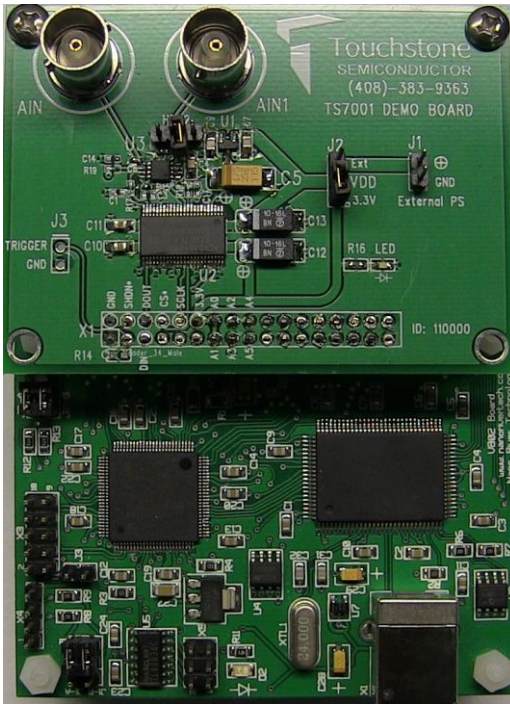
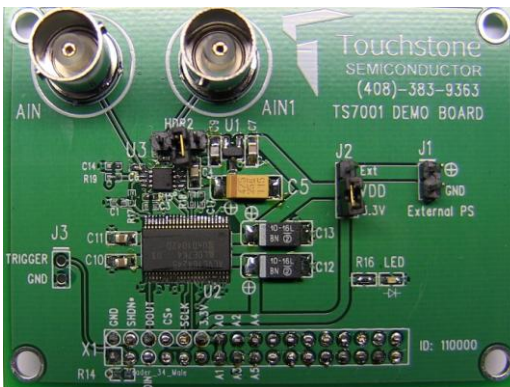
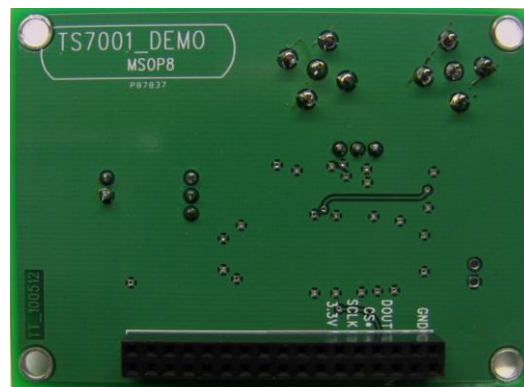
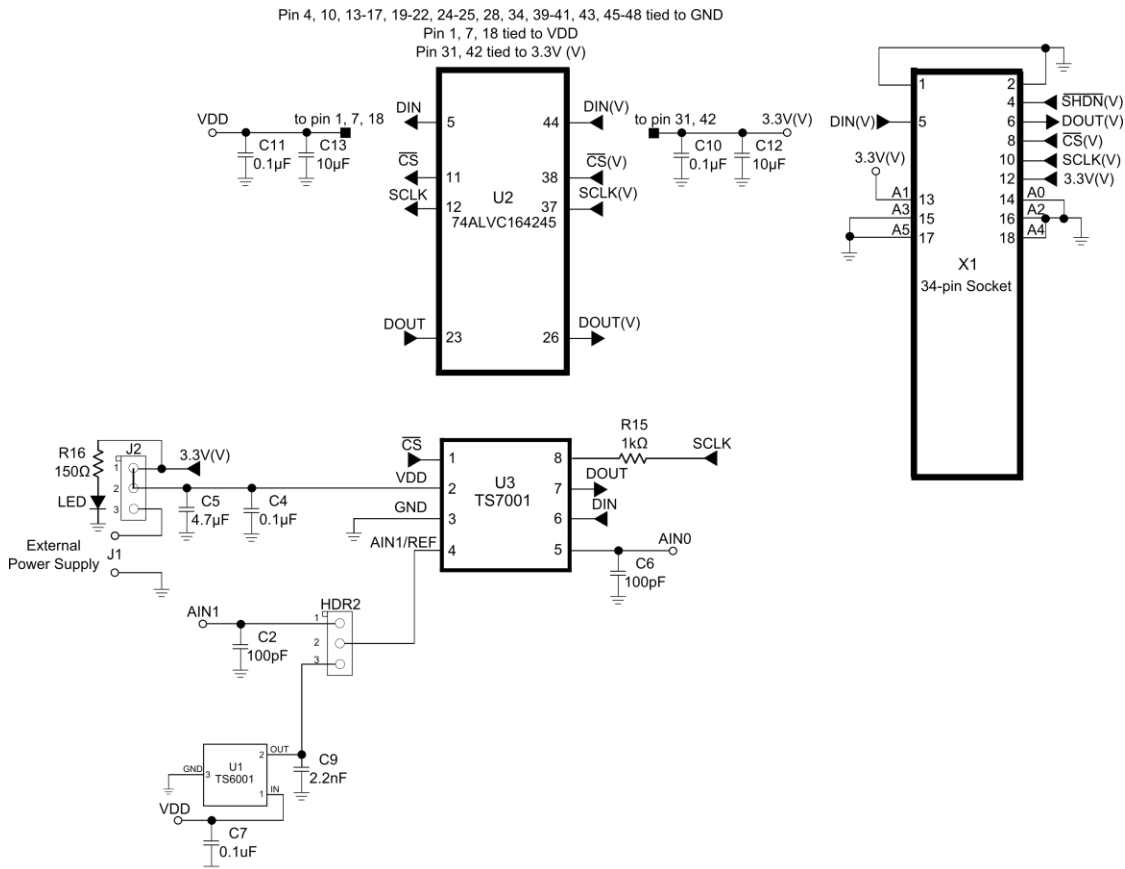

Figure 1. TS7001 Evaluation Board with Viperboard
Figure 2. TS7001 Evaluation Board (Top View)
Figure 3. TS7001 Evaluation Board (Bottom View)
Figure 5. TS7001 Evaluation Board Circuit
Figure 5 shows the TS7001 demo board schematic, Figure 2 and Figure 3 show a picture of the top and bottom of the TS7001 demo board, respectively. Figure 1 shows a picture of the TS7001 demo board with the viperboard connected.
In order to evaluate the TS7001, jumper J2 is to be set to position 2-3 and jumper HDR2 is to be left unconnected. The default configuration for J2 and HDR2 is 1-2 and unconnected, respectively. Refer to Figure 5 and Table 1. The default configuration on the board is for $V_{DD} = +3.3V$. For this evaluation, we will use an external +3.6V power supply and an external +3.6V reference voltage. The following steps are to be performed:
- 1) Set the voltage of the power supply between +2.7V and +3.6V and turn it off. Connect the positive terminal of the DC power supply to pin 12 labeled as "3.3V" on X1, and the ground terminal to pin 2 labeled as "GND". Refer to Figure 5.
- 3) To measure the supply current of the TS7001, place jumper J2 to position 2-3. Then, apply an external power supply to J1. An ammeter can now be connected in series with the power supply for a static supply current measurement of the TS7001. The supply current should be less than 900 μ A. Please refer to Figure 5 and table 1.